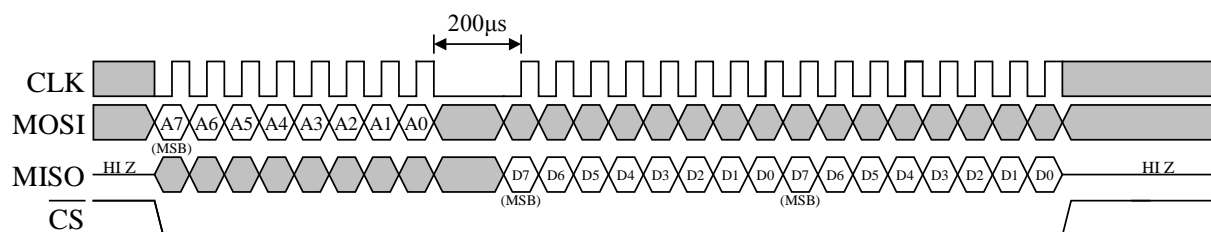

Figure 5 Timing Diagram for an A/D conversion and 12-Bit data read operation.
The KXPS5 has an onboard 12-bit ADC that can sample, convert and read back sensor data at any time. Transmission of an 8-bit axis-conversion command (see Table 10) begins on the falling edge of nCS. The MSB of this command indicates if you are writing to (0) or reading from (1) the register. After the eight clock cycles used to send the command, the host must hold SCLK low for at least 200µs during the A/D conversion time. Note that all returned data is sent MSB first. Once the data is received, nCS must be returned high for at least 130 ns before the next data request. Figure 5 on the following page shows the timing and diagram for the accelerometer 12-bit ADC read operation.